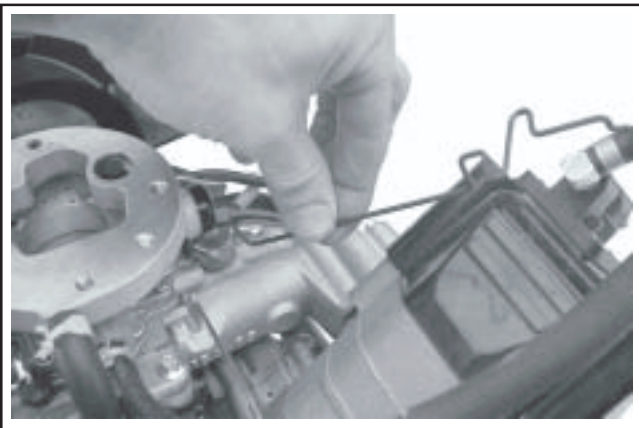

Figure 9-20. Disconnecting Choke Linkage from Carburetor.
4. Unhook the choke linkage from the actuator lever on carburetor. See Figure 9-20.